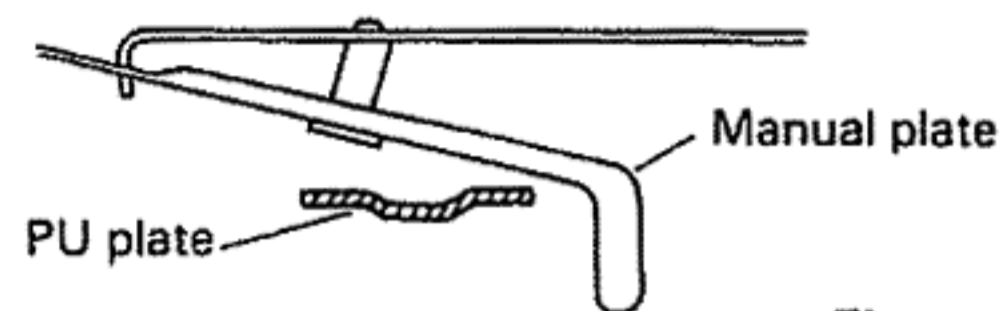

Figure 11
- 3) While the stylus tip rides in the first modulated groove (not lead-in groove) of 12" record (30cm), the manual plate must not touch the PU plate (See Figure 11).